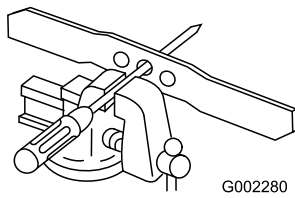

Figure 33
1. Check the balance of the blade by placing the center hole of the blade over a nail or a screwdriver shank clamped horizontally in a vise (Figure 33).